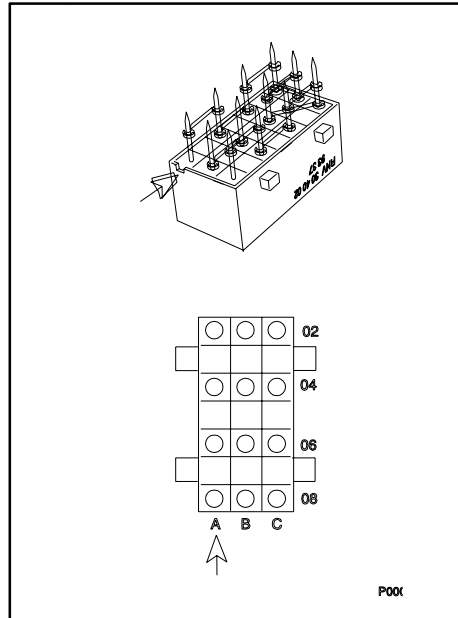

Figure 4 Strapping plug pin configuration
- 1 Hold fork contact unit with notch turned towards you (see arrow in figure 4).